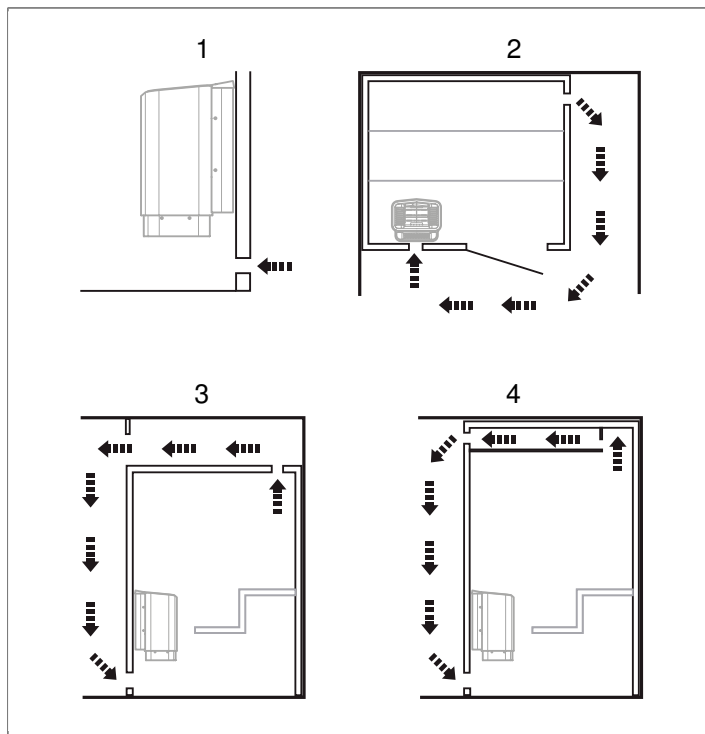

**Figure 7:** Positioning the inlet and outlet vents
- at the maximum possible distance from the inlet vent, e.g. diagonally (see **Figure 7**, Page 4).
- high on the wall or in the ceiling (see **Figure 7**, Page 4).